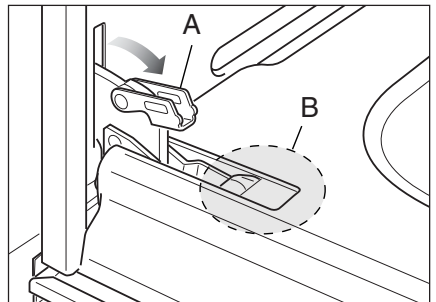

Fig.33b
- Open the lever "A" completely on the left and right hinges (Fig. 33b).